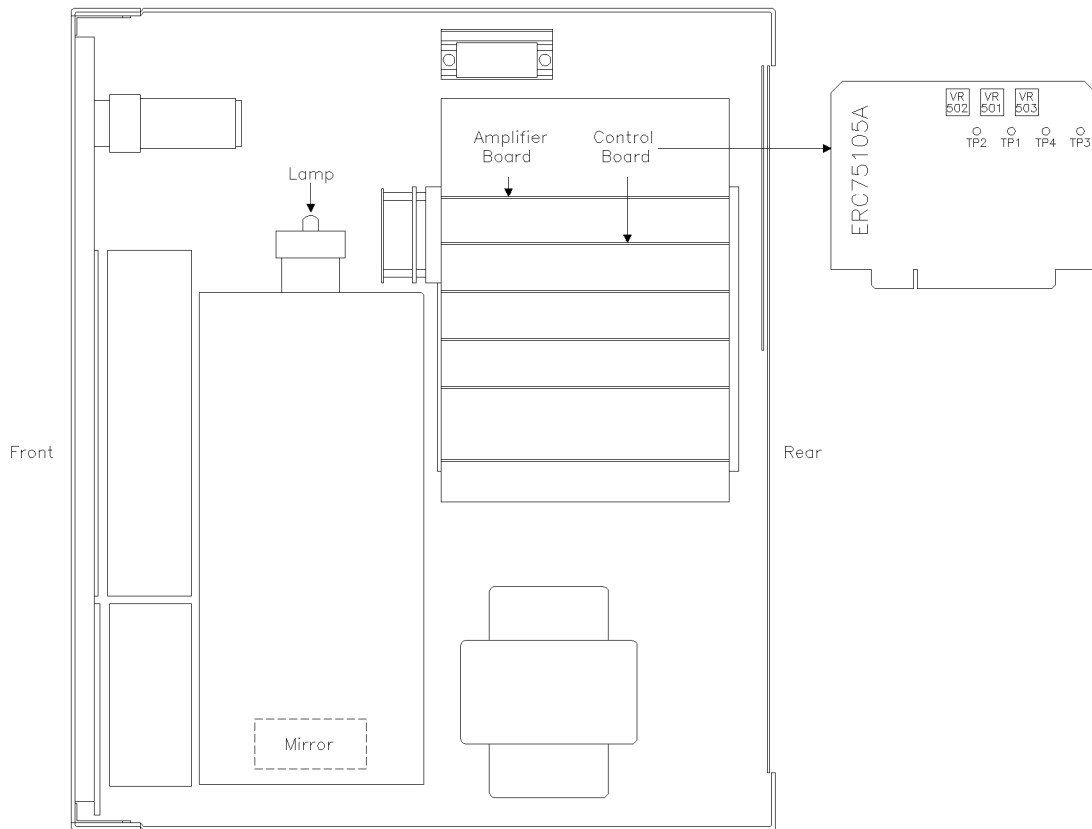

Figure 3-15. Location of Boards
2. Refer to Figure 3-15. In the detector, locate the CONTROL board. Locate VR502 and TP2 on the CONTROL board.
4. Use Figure 3-15 to locate the AMPLIFIER board. On the AMPLIFIER board, locate VR613. VR613 is clearly labeled on the board.